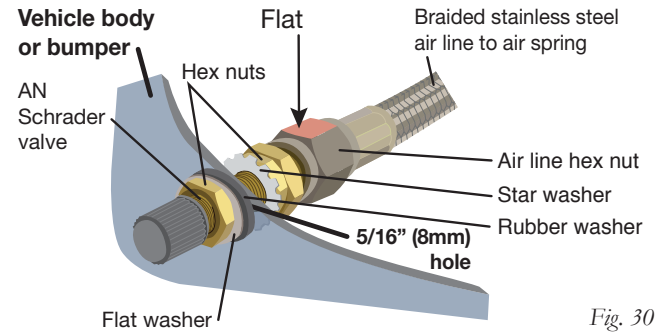
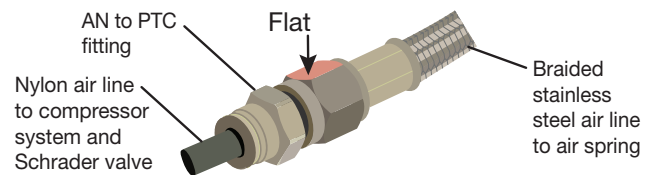

Fig. 30
Fig. 31
The braided stainless steel air line must be routed to the rear of the vehicle. Install the air line along the frame and then back to the rear where the inflation valves will be mounted (Fig. 30).
2. Tighten the air line hex nut finger tight, then use 2 wrenches to turn 1 additional flat (1/6 of one full turn). Do not overtighten (Fig. 30 or Fig. 31). The easiest way to tighten the fitting is off the vehicle. Install the Schrader valve in the chosen location.